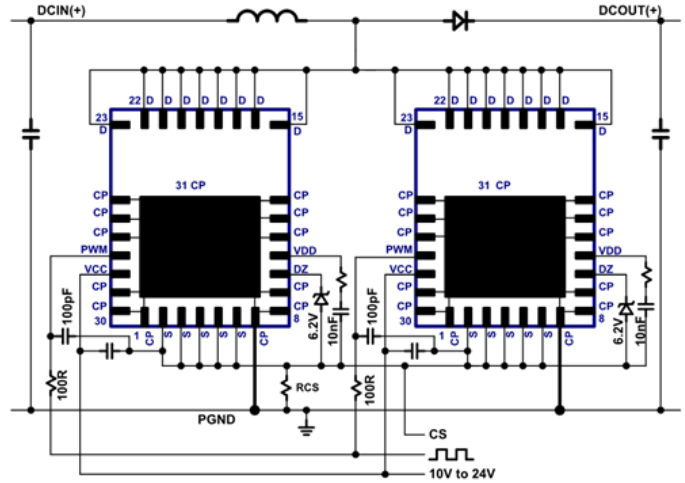

Fig. 25. Boost schematic using two parallel ICs
For some applications it is desirable to parallel ICs in order to reduce conduction losses and temperatures. Two GaNFast power ICs can be connected in parallel in a PFC boost application working in boundary-conduction mode (BCM) only. This configuration is shown in Fig. 25. The paired pins that are connected together include the drain pins (D), the source pins (S), the V_{CC} pins, the PWM pins, and the D_z . A single D_z diode can be shared by both ICs. The V_{DD} pins are not connected together and require separate V_{DD} supply capacitors (C_{VDD1} , C_{VDD2}) and separate turn-on current set resistors (R_{DD1} , R_{DD2}). Each IC should have its own local V_{CC} supply filter capacitor (C_{VCC1} , C_{VCC2}). The PWM pins can have a single filter resistor (R_{PWM}) but separate filter capacitors (C_{PWM1} , C_{PWM2}) should be placed at the PWM pin of each IC. When designing the PCB layout for the two paralleled ICs, the drain and source connections should be made as symmetrical as possible two avoid any parasitic inductance or capacitance mismatch.